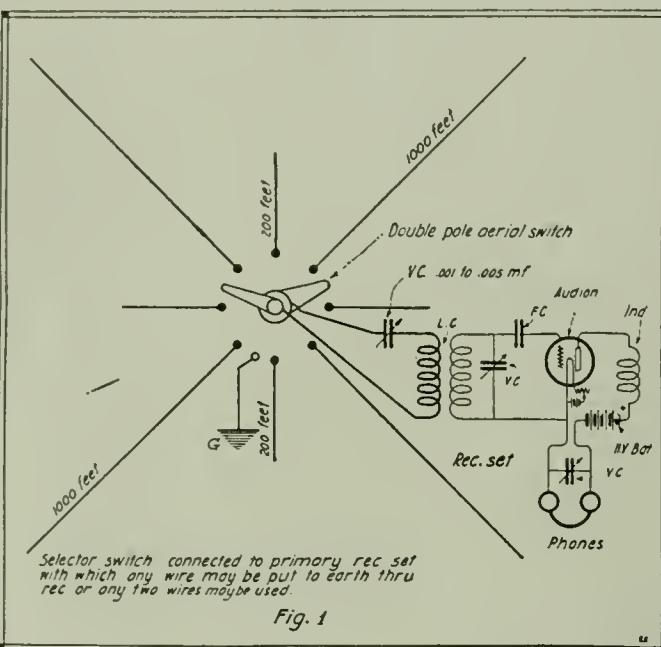

Fig. 1
"It is obvious that a number of persons can receive at the same time, one operator to each wire. There is no interference, one with another. Figure 1 shows eight (8) wires and a bipolar selector switch